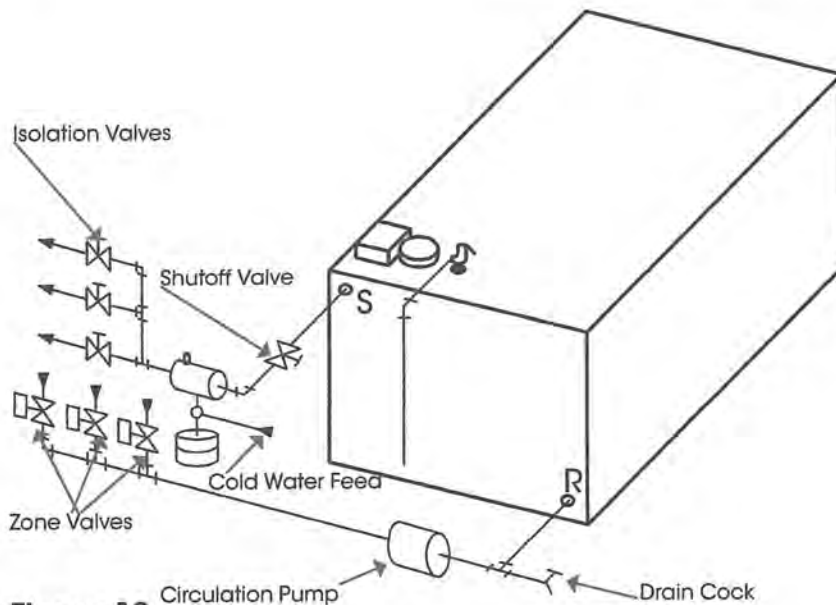

Figure 18
**1. Multiple zoning with zone valves:** Install a balancing valve in each zone and adjust so that flow is about the same in each zone. See Figure 18.